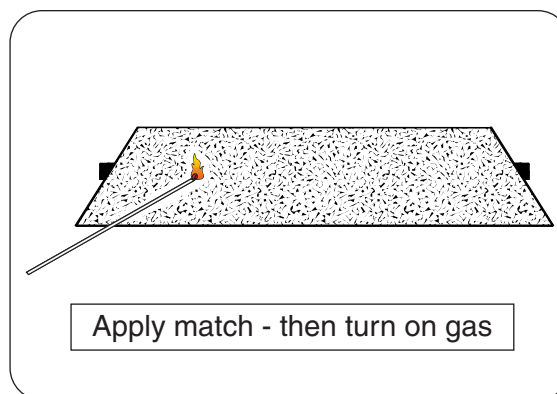

Fig. 16-1
3. Lay a lighted match on the surface of the decorative media near the burner (**do not hold the match in your hand**) or use a lighted long-stem match/long-necked butane lighter (Fig. 16-1).